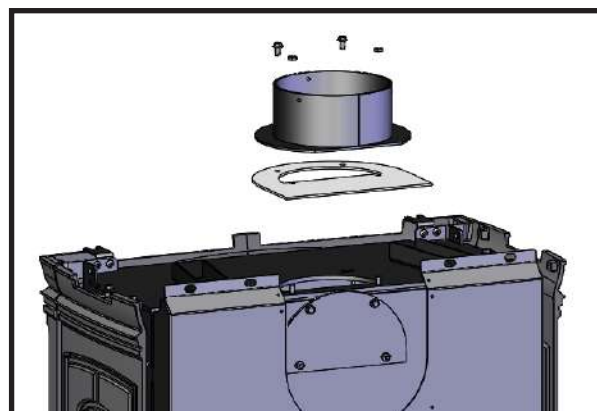
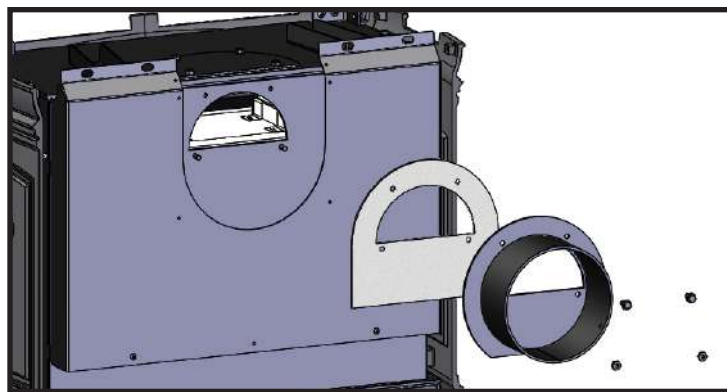

Figure 6: Flue Conversion Step 3.
Figure 9: Flue Conversion Step 6.
3. Remove the bolts and flue collar from the top of the unit (Figure 6) - Careful do not damage the gasket.
6. Locate the flue collar on the back of the unit with the opening pointed up (Figure 9). Ensure the gasket is in place and laying flat against the stove. Reinstall the collar using the nuts and bolts that were removed from the back (Figure 6). Install the back cover.